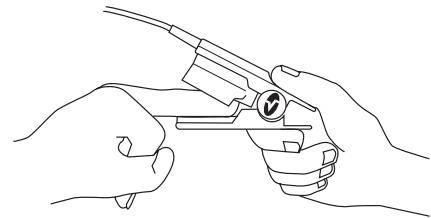

Fig. 1
- Open the sensor by pressing on hinge tabs. Place the selected digit over the sensor window of the sensor. The fleshiest part of the digit should be covering the detector window in the lower half of the sensor. The top half of the sensor is identified by the cable. The tip of the finger should touch the raised digit stop inside the sensor. If the fingernail is long, it may extend over and pass the finger stop (Fig 1).